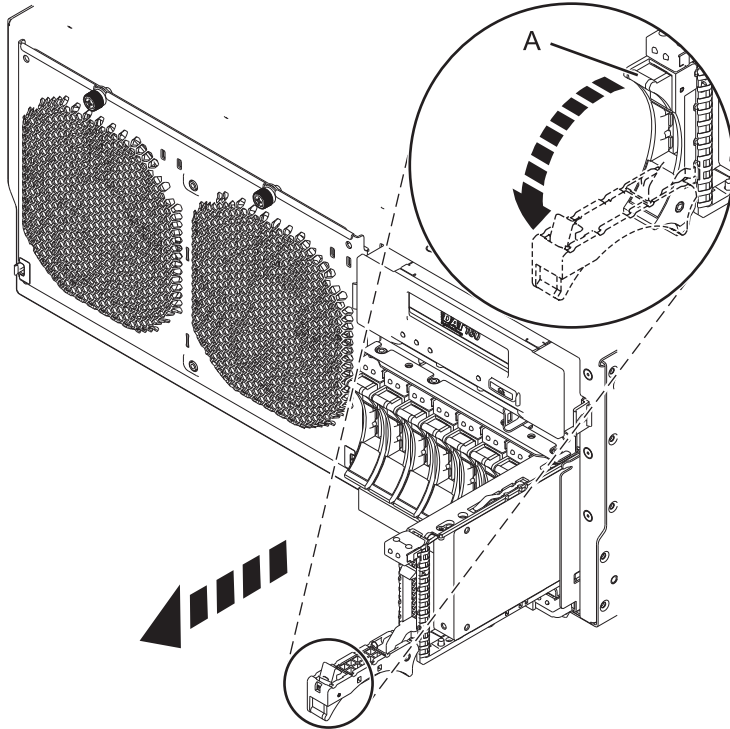

Figure 21. Removing a disk drive from the 8202-E4B, 8202-E4C, 8205-E6B, or 8205-E6C
- Unlock the disk drive handle by squeezing it and pulling it out toward you, as shown in Figure 21 on page 47.